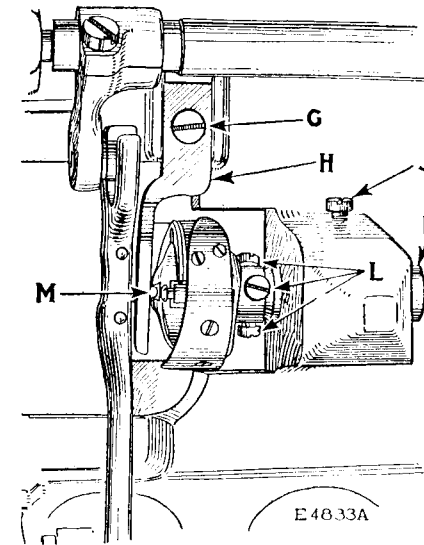
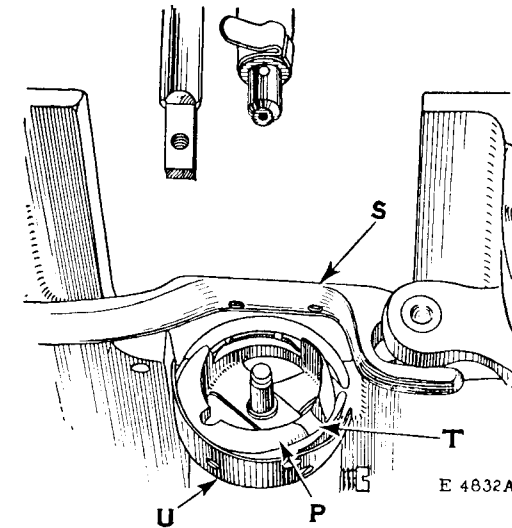

FIG. 18. VIEW OF UNDERSIDE OF MACHINE SHOWING BOBBIN CASE HOLDER POSITION BRACKET (H) AND ADJUSTMENTS ON MACHINE
FIG. 21. SHOWING CORRECT POSITION OF THREAD GUARD (U) AND BOBBIN CASE HOLDER (P) FOR REMOVAL OF SEWING HOOK
Remove the slide plate and bobbin case. Take out the screw (G, Fig. 18) and remove the bobbin case holder position bracket
(H, Fig. 18). Take out the three screws (N, Fig. 19) and remove the rotating hook section (O, Fig. 19) and bobbin case holder (P, Fig. 19). This will give a clear view of the point of the hook and the needle for the purpose of timing.
(Fig. 21) until it is in the position shown in Fig. 21. The hook can then be removed from the hook shaft.
In placing a new sewing hook on the shaft, have the hook (U) of the hook at the bottom and the bobbin case holder (V) turned to the position shown in Fig. 21, so that the hook is clear of the feed bar (S).
When the hook is in position on the shaft, turn the bobbin case holder (P, Fig. 21) until the notch (T, Fig. 21) is at the top, then turn the bobbin case holder position bracket (H, Fig. 18), until the position stud (M, Fig. 18) enters the notch (F) at the top of the bobbin case holder, as shown in Fig. 18,
Remove the needle, slide plate and bobbin case. Take out the screw (G, Fig. 18, page 17) and remove the bobbin case holder
position bracket (H, Fig. 18). Loosen the three set screws (L, Fig. 18) in the hub of the hook, then turn the balance wheel over toward you until the feed bar (S, Fig. 21) is raised to its highest point. Turn the sewing hook until the thread guard (U, Fig. 21) is at the bottom, as shown in Fig. 21, and turn the bobbin case holder (P, Fig. 21) until it is in the position shown in Fig. 21. The sewing hook can then be removed from the hook shaft.
When replacing a new sewing hook on the shaft, have the thread guard (U) of the hook at the bottom and the bobbin case holder (P) turned to the position shown in Fig. 21, so that the hook will clear the feed bar (S).
When the hook is in position on the shaft, turn the bobbin case holder (P, Fig. 21) until the notch (T, Fig. 21) is at the top, then replace the bobbin case holder position bracket (H, Fig. 18), being careful to see that the position stud (M, Fig. 18) enters the notch at the top of the bobbin case holder, as shown in Fig. 18,
then securely fasten the position bracket by means of the screw (G, Fig. 18). Replace the needle and time the sewing hook as instructed on pages 17 and 18. When tightening the three screws (L, Fig. 18) in the hub of the hook, draw the hook shaft toward the needle bar end of the machine and press the hook toward the balance wheel so as to take up the end play in the shaft. Then replace bobbin case and slide plate.